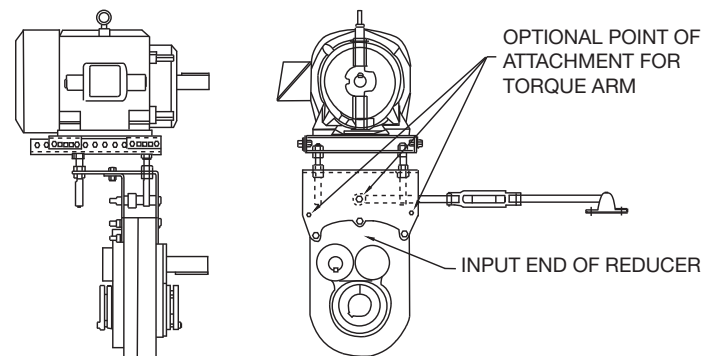

Figure 1 - TAB Bottom Motor Mount
Note: The motor mount does not limit the position of the reducer. However, it must be installed on input end of reducer as shown in Figure 1
2. Remove up to two additional housing bolts (as required) on input end of reducer. Install back support (2) and front support (1) with new housing bolts (5). Install mounting bolts (8).
3. Disassemble torque arm from adapter plates and reattach to bottom motor mount in one of the three available holes on the front support. Position torque arm between long and short spacer bushings (16 and 17) as shown in Figures 1 and 2. Secure using torque arm bolt (18).
Note: The motor rails may be moved forward or backward from the position shown in Figure 1 to permit alignment of the V-belt sheaves.
10. Install V-belts and adjust belt tension. Figure 1 shows the mount near the minimum center position. To increase the center distance, loosen the four nuts labeled "A" on the adjusting studs and tighten the four nuts labeled "B" alternately and evenly until the belts are properly tensioned.